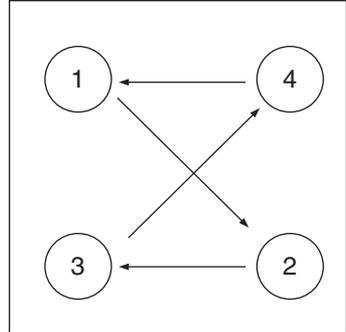

Fig. 16
- c. Tighten the four 3/8" Hex Socket capscrews (.500" - 13" x 4.00"). Step by step to avoid damaging the seals (**Fig. 16**).